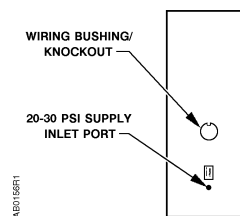

Figure 5. Exhaust Terminal Pneumatic Piping Connections.
For damper, actuator and valve controls mounted inside the controls enclosure. Connect the 1/4-inch poly tubing from the 20 to 30 psi supply line to the port labeled "Supply Air 20–30 psi" on the side of the controls enclosure (Figure 5).
3. Connect a two-conductor 20 AWG cable to the Field Panel's 0 to 10V output or UC's universal output. Connect it to the AO-P Transducer connected to the exhaust damper or through the wiring bushing/knockout on the terminal enclosure (Figure 5) to the AO-P Transducer inside the enclosure.